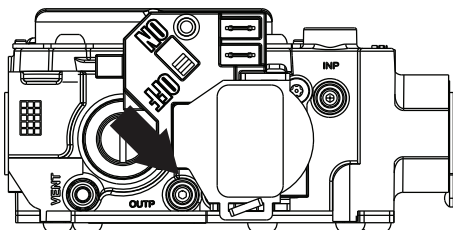

Fig. 7 – Control Switch to OFF
- Turn the control switch on the gas control to the OFF position and wait 5 minutes, see Fig. 7. Then smell for gas, including near the floor. If you smell gas, STOP! Follow “B” on furnace label. If you don’t smell gas, go to next step.
5. Turn the switch on the gas control to the OFF position, see Fig. 7.